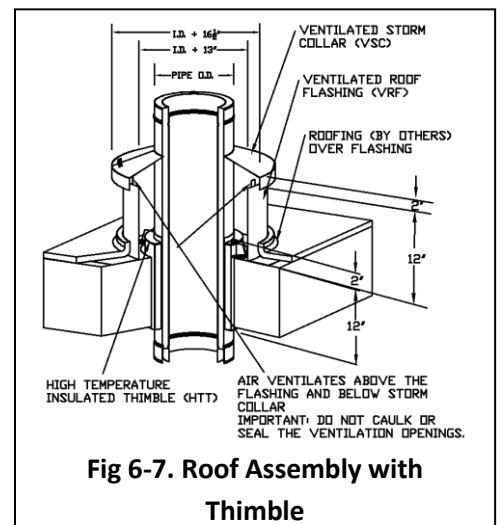

Fig 6-7. Roof Assembly with Thimble
UL has determined the Roof Thimble (HTT) alone, without ventilation, provides a safe installation through a combustible roof for Model DWKL applications with 1000°F flue gases or less. This also applies to enclosed Special Gas Vents, Type B Vents, and Type L Vents. In this manner, the Flat Roof Flashing (FRF) in conjunction with the standard Storm Collar (SC) is used. (See Fig 6-7).